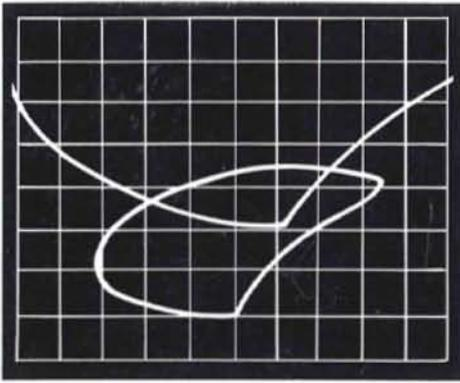

Fig. 3. X-Y display showing flow/volume loop (lower), and Y-T display of volume/time spirometry (upper).
The resultant scope image will show two displays (Fig. 3). The flow-volume loop is the X-Y display produced by time base channel A ($X = \text{flow}$), and the left amplifier ($Y_2 = \text{volume}$). The volume-time spirometry is the Y-T display produced by the center amplifier ($Y_1 = \text{volume}$) and channel B time base (T).